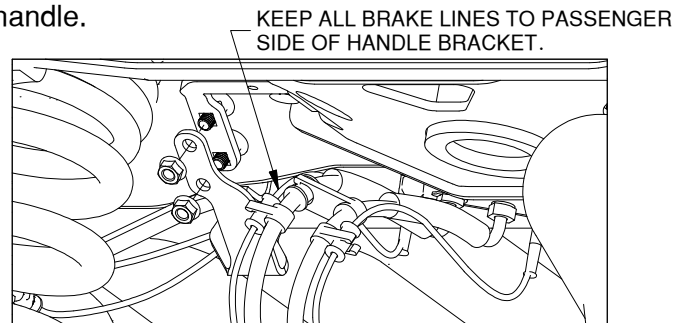

Figure C4: Looking up at frame cross member under truck.
- 5. Install the latch pin handle.** Attach the handle to the latching mechanism over the 3/8" carriage bolts with two 3/8" locking flange nuts, see Figure C4. Be sure that the handle is in the proper position and that it does not interfere with any other components of the vehicle. It may be necessary to adjust the handle position by loosening the 3/8" nuts and re-positioning the handle. Torque the nuts to 30 ft. lbs. to secure the handle.
- 6. Secure Wiring.** The handle mechanism may contact the sensor wires that run along the brake lines in the area above the differential. Tie the wires down to the brake lines with a wire tie or other secure method to avoid damage to the wires, see Figure C4.